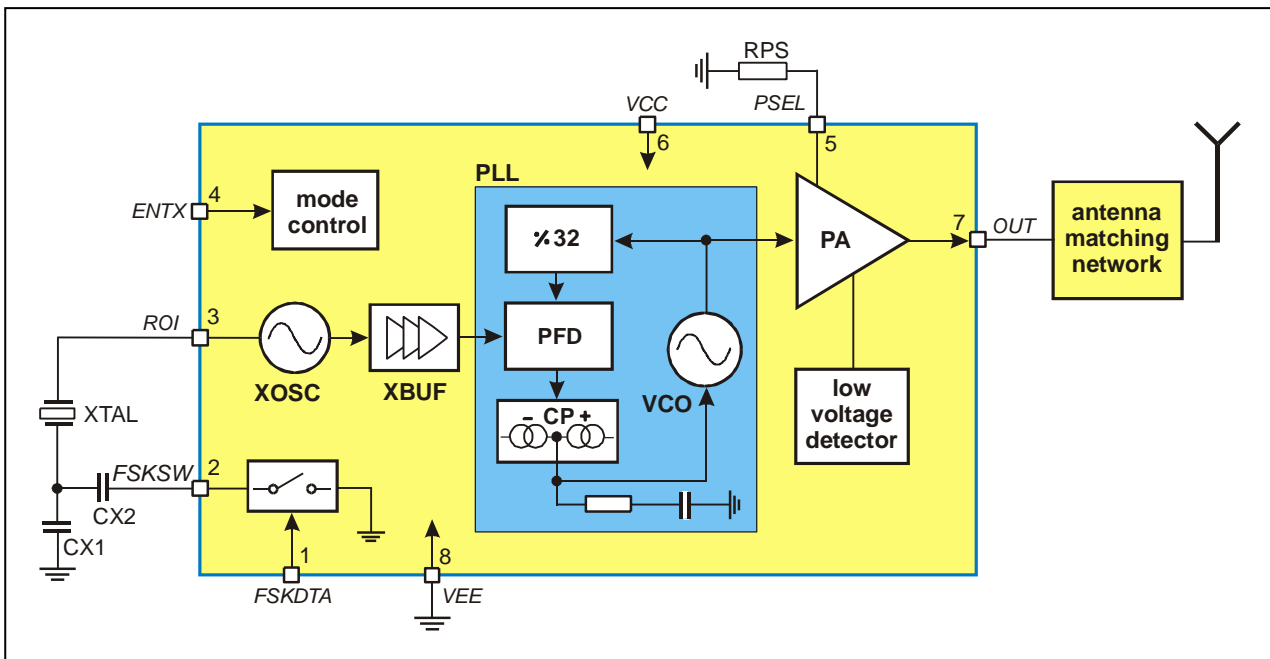

Fig. 1: Block diagram with external components
As depicted in Fig.1, the TH72011 transmitter consists of a fully integrated voltage-controlled oscillator (VCO), a divide-by-32 divider (div32), a phase-frequency detector (PFD) and a charge pump (CP). An internal loop filter determines the dynamic behavior of the PLL and suppresses reference spurious signals. A Colpitts crystal oscillator (XOSC) is used as the reference oscillator of a phase-locked loop (PLL) synthesizer. The VCO's output signal feeds the power amplifier (PA). The RF signal power P_{out} can be adjusted in four steps from $P_{out} = -12$ dBm to +10 dBm, either by changing the value of resistor RPS or by varying the voltage V_{PS} at pin PSEL. The open-collector output (OUT) can be used either to directly drive a loop antenna or to be matched to a 50ohm load. Bandgap biasing ensures stable operation of the IC at a power supply range of 1.95 V to 5.5 V